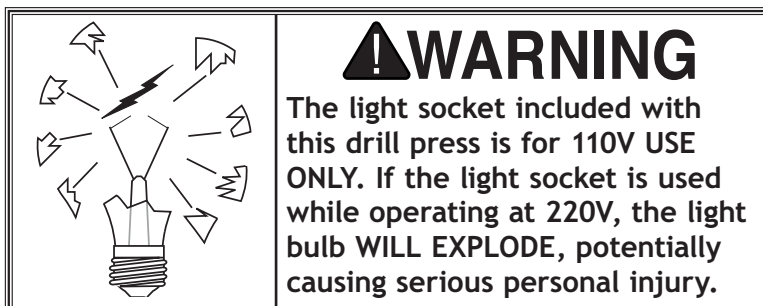

Figure 22. Light socket access (110V only).
2. Install a 60W or smaller light bulb in the location shown in **Figure 22**.